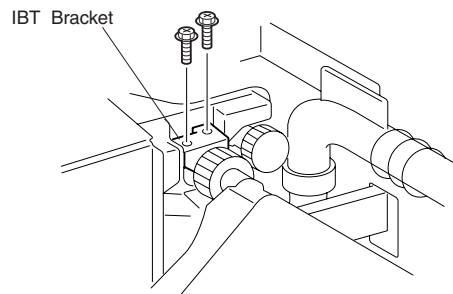

Figure 1
6. Remove the two screws securing the IBT Bracket to the rear of the printer frame and remove the Bracket (Figure 1)